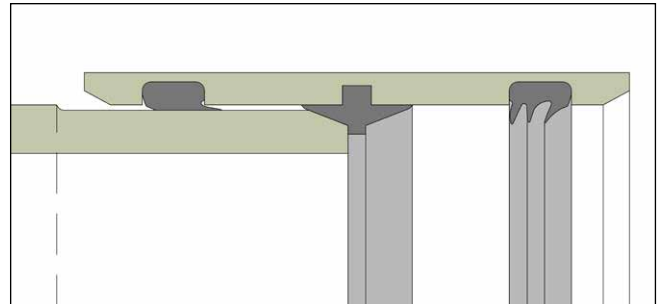

Fig. 22: FSC / ASC coupling
5.1.1. SEWER COUPLING / FSC OR ASC (FIG. 22)